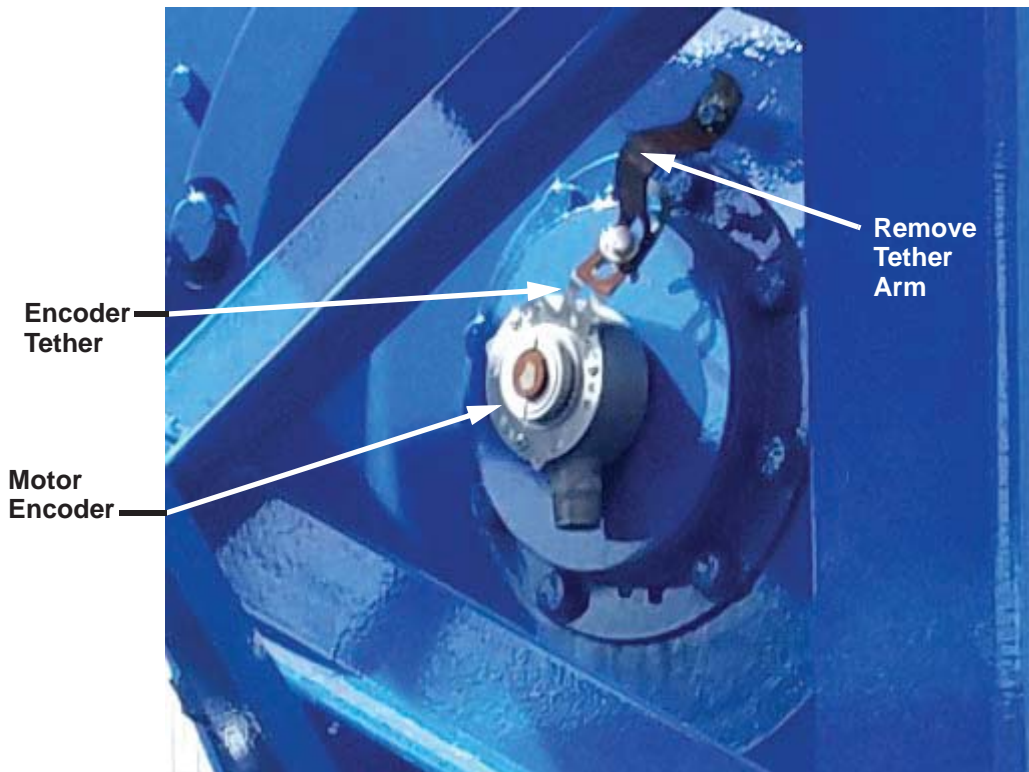

Figure 2: Motor encoder, encoder tether, and tether arm
3. Remove existing tether arm. *Retrofit guard design has integrated tether support.* See Figure 2.